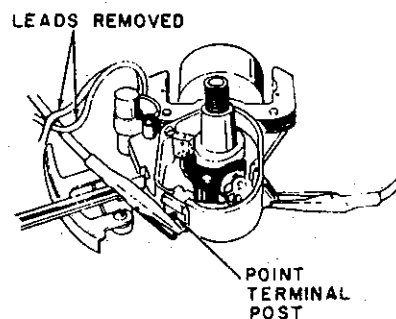

Figure 29
- B. Install leads of some continuity reading device on the point terminal and to ground. (See Figure 29.)